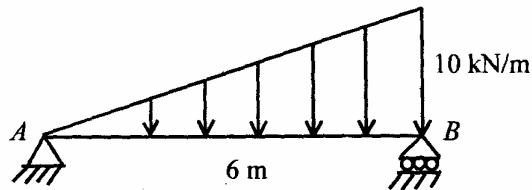

Fig. 1
2. Find the deflection of the simply-supported beam as shown in Fig. 1 by any method. Also, find the maximum deflection. Given : $E = 2 \times 10^5 \text{ N/mm}^2$, $I = 15 \times 10^5 \text{ m}^4$. 20